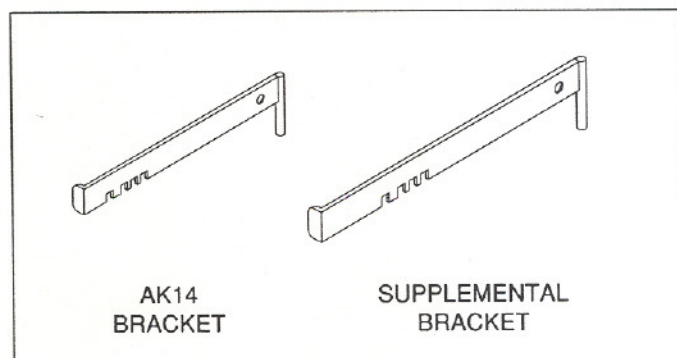

Figure 11
- J. If an Outside Air Kit (AK14) is to be purchased, substitute the AK14 bracket with the supplemental bracket provided in the Installation bag, and discard the AK14 bracket. See Figure 11.